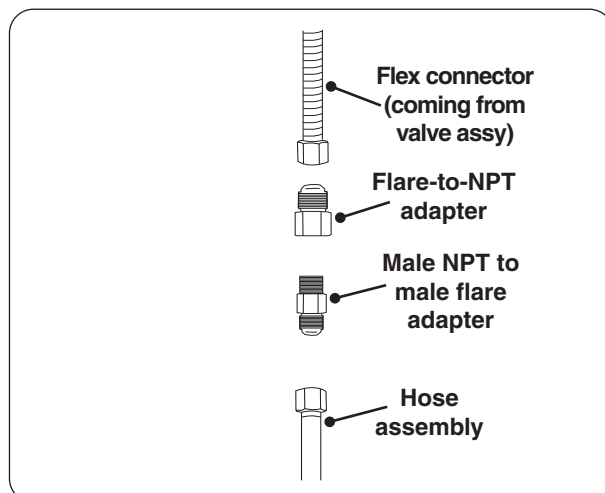

Fig. 29-1 Connecting flex to hose assy
1. Connect the L.P. regulator hose assembly (not included) to the flex connector that is coming off of the valve assembly (see Fig. 29-1).